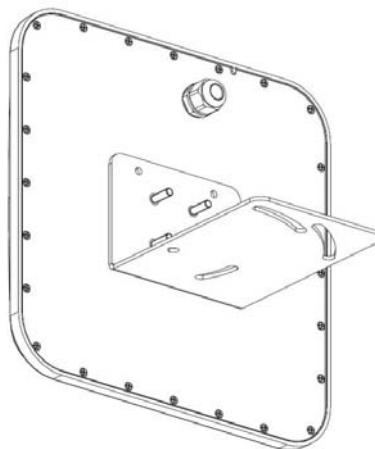

Figure 3-1 L-shaped mounting bracket installation
(1) Align the L-shaped mounting bracket against the screw poles on bottom of reader housing, then install the rubber and screw the M6 nuts, refer to Figure 3-1.